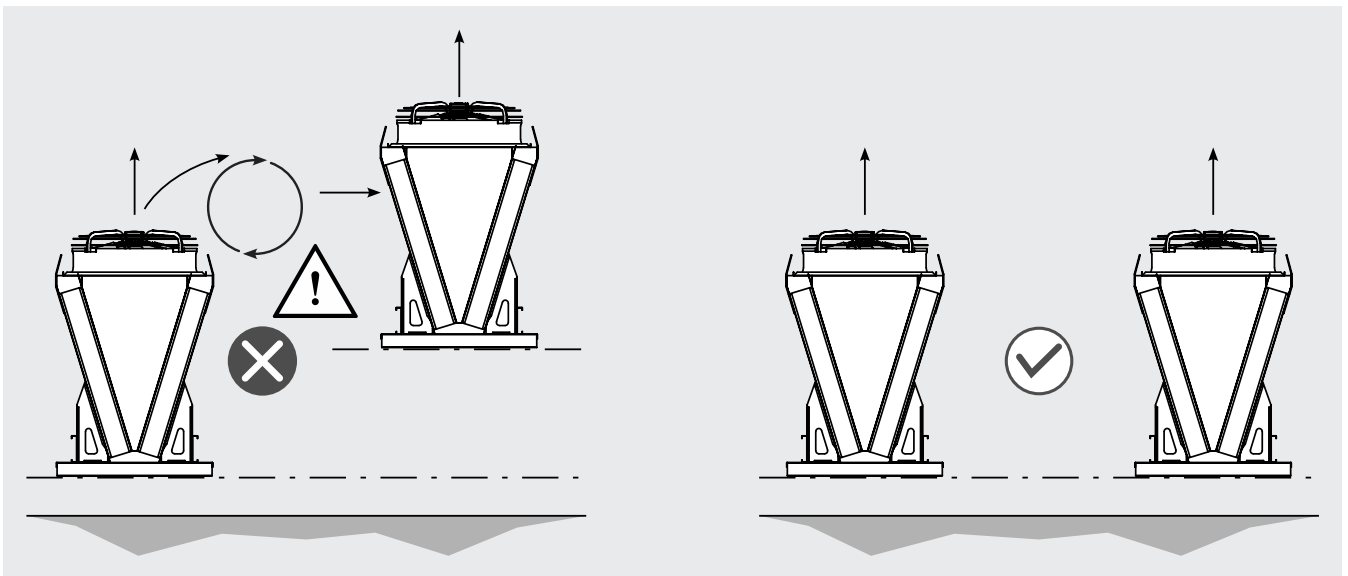

Figure 5
- 4.6 The models must all be installed so that the fans are at the same height in order to avoid air recirculation. See Figure 5.